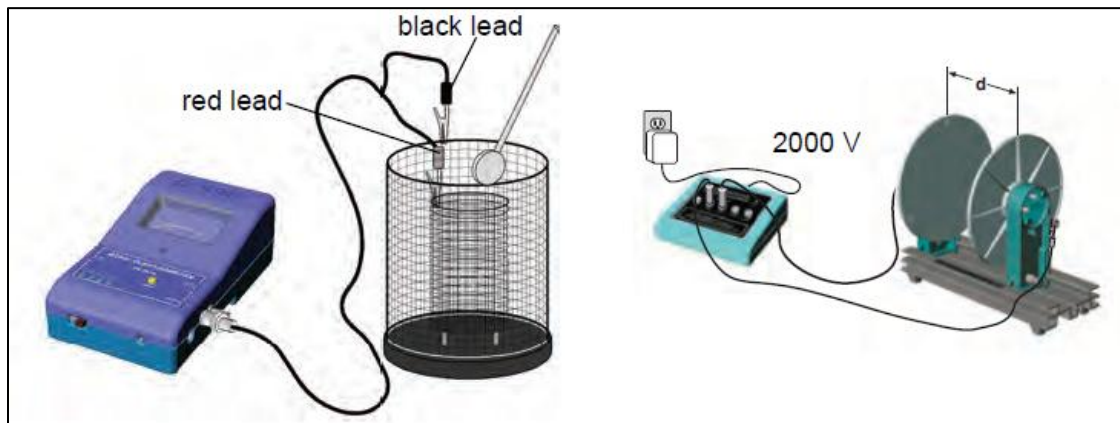

Fig 3.2: Demonstration Setup
1. Figure 3.2 shows the equipment set up. The Parallel Plate capacitor has an initial plate separation of 6 cm and is connected to the voltage source, set initially at **3000 VDC**. The Faraday Ice Pail is connected to the electrometer and the electrometer is grounded to earth.